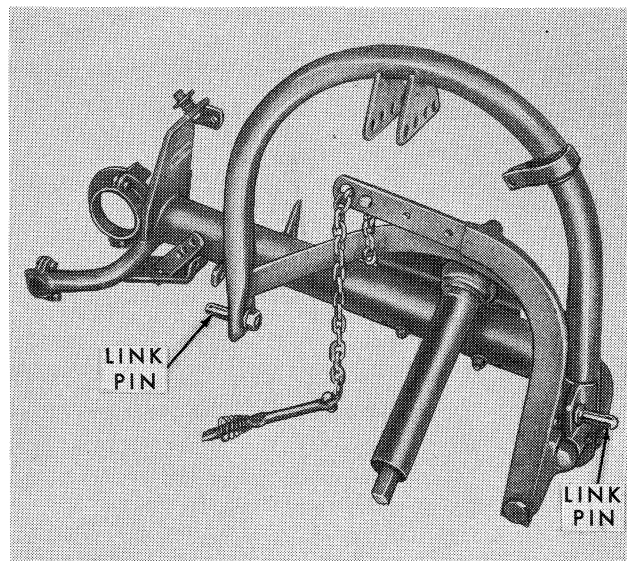

Figure 31
4. Install the two link pins, lock washers, and nuts in the upper frame, as shown in Figure 31.